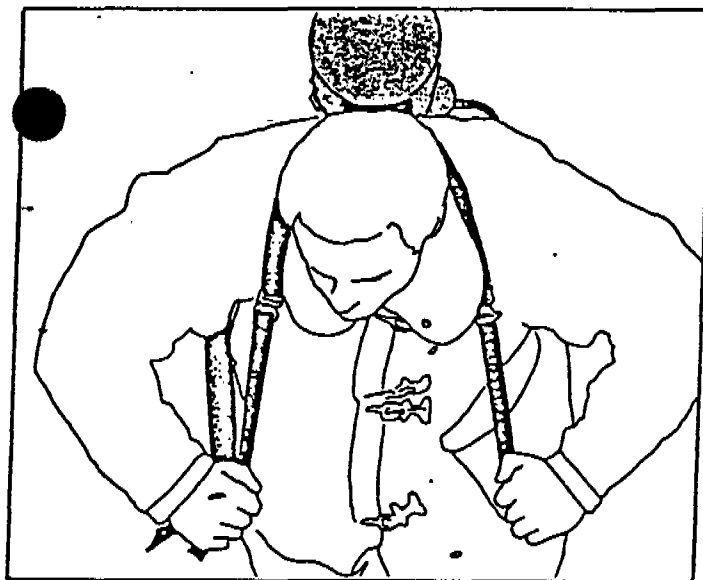

Figure 3
6. Bend forward and pull the shoulder adjustment straps until the back support strap rests in the small of your back. (Figure 3).